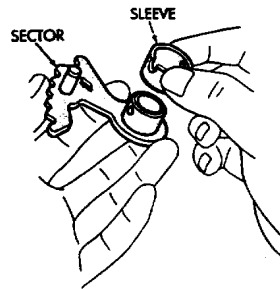

Fig. 5 Installing Manual Shaft And Sector
- (6) Install new spacer sleeve on shift sector (Fig. 5).
- (7) Install sector and sleeve on shaft and install shaft in case.
- (8) Align sector and sleeve and install new retaining pin.
- (9) Align notch in sleeve with depression in sector and stake sleeve in two places. Be sure lever and shaft rotate smoothly.